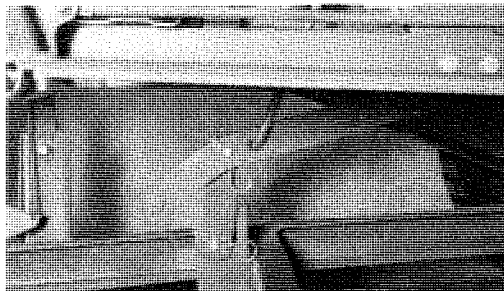

FIGURE 3
3. For the 1972 Commando 800 and 1973 and later models hook up lift link 105052 as shown in Fig. 3. For additional blade to ground clearance it is necessary to reposition the lift rod into the hole at the end of the lift arm as shown in Fig. 4. On older models use lift bar 7706. Fit one end of the lift bar in the second hole (hole nearest the driver) of the tractor lift arm. The other end fits into a hole or a slot on the lift plate.